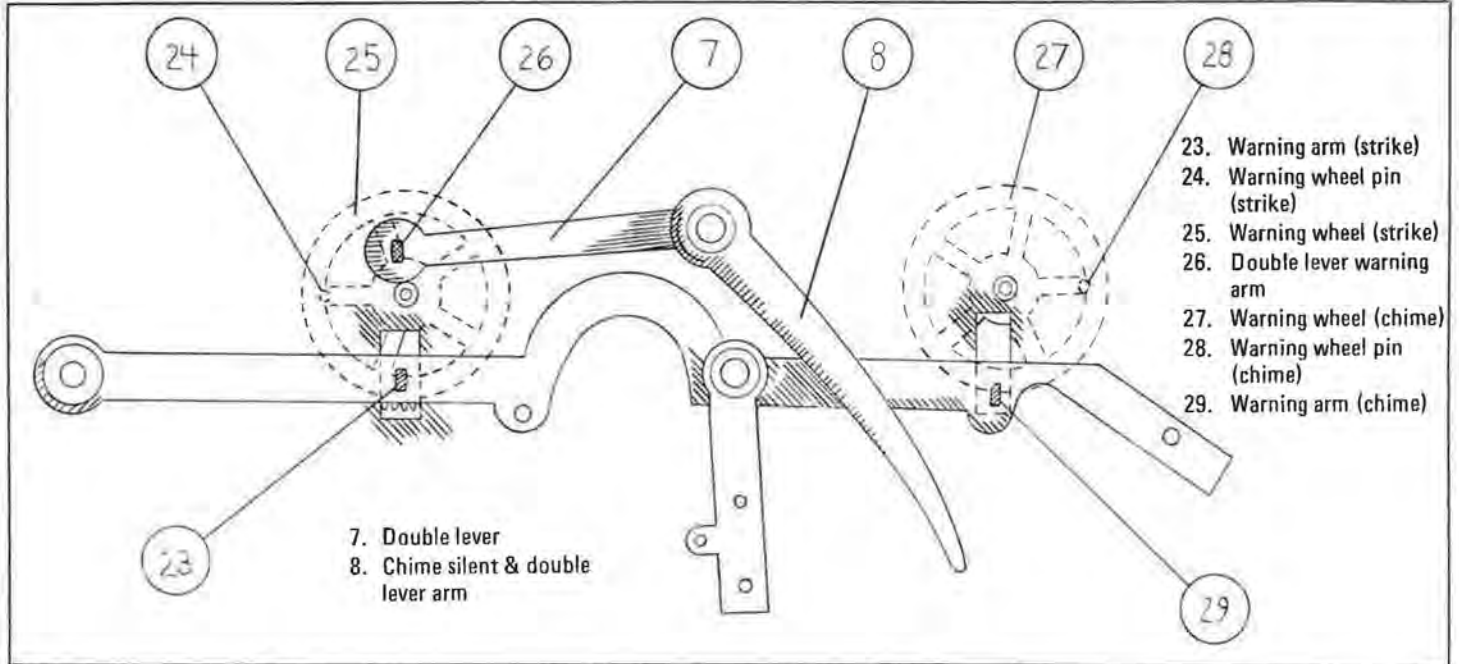

Figure 4
A simplified front view of a nine-tube movement is represented in Figure 3. The drawing shows the chime and strike parts as they would appear *before* the hour, when chime and strike warning has occurred. Figure 4 is a separate view of the long lever assembly, and is there to show the warning wheel positions *after* chiming and striking are finished. To prepare the drawings, I worked directly from a current model Herschede. The company does publish a complete set of movement drawings, but I felt that a drawing showing only certain chime and strike parts would better serve our purpose. The part names used in this article are from Herschede's parts lists. Numbering is my own, keyed to Figures 3 and 4.
The warning must also be set on the strike train. Rest position for the strike warning wheel pin (24) is a 9 o'clock orientation, as shown in Figure 4. If the pin ends up at a 6 o'clock position, it will interfere with the warning arm for the strike (23), causing a jam. An 11 o'clock setting will eliminate the warning run and make stalling of the gear train likely. Equally harmful would be any interference with the double lever warning arm (26).